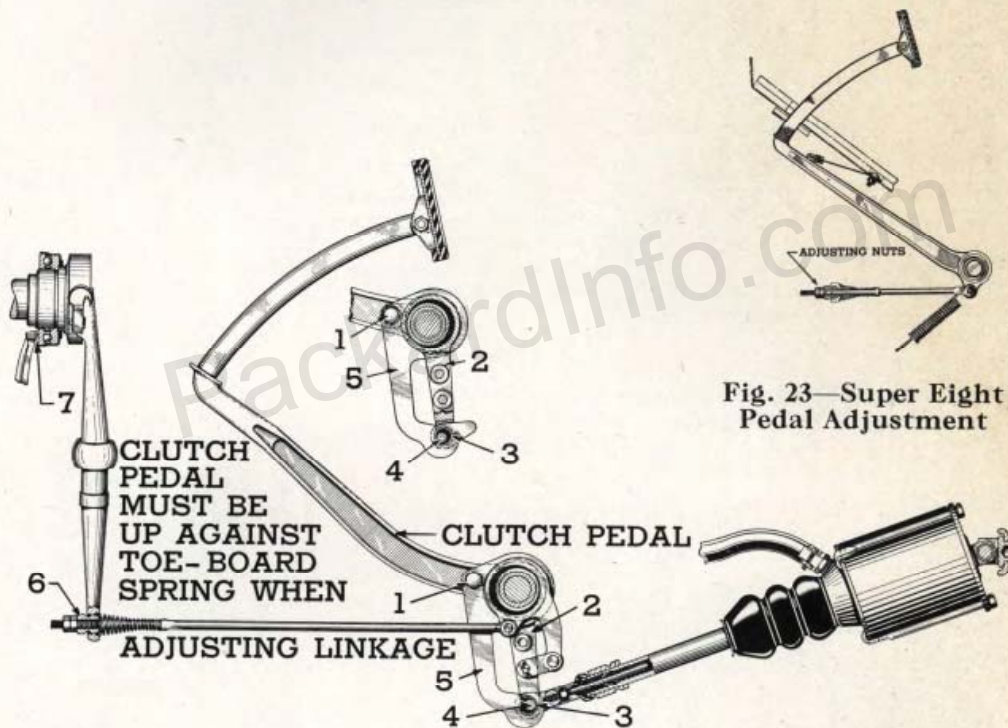

Fig. 24—Layout of Power Operated Clutch. Repeated View Shows Position of Levers as Power Unit Valve Opens
The **Twelve** clutch is power operated by means of a vacuum cylinder as shown in Fig. 24. Adjustment procedure is as follows:
2. Make sure that pedal is up against toe-board spring. Loosen lock screw "1," Fig. 24. Pull rearward on the bottom of lever "2" and forward on bottom of lever "5" until all clearance at the top end is on the forward side of the pedal shaft and at the bottom end on the forward side of the pin "4" as shown in lower view. Holding levers in this position, tighten the lock screw "1" securely.
3. Pedal should have  $1\frac{3}{16}$ " free travel before shifter bearing contacts the clutch release fingers. To secure this specification, move pedal pad downward  $1\frac{3}{16}$ " then, holding this position, adjust pedal rod nuts "6" until all clearance "7" is removed between shifter bearing and clutch fingers. If linkage is correctly adjusted, the power cylinder valve will open simultaneously with the contact of release fingers against shifter bearing and of pin "4" against forward wall of bushing "3" as shown at repeated view in Fig. 24.